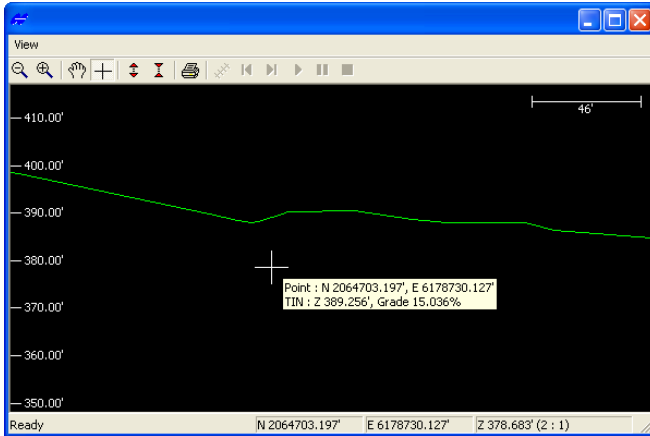

Figure 5-19. Profile View
The Profile View displays (Figure 5-19 on page 5-19) the following information:
3. On the **View** dialog box (Figure 5-19), use the toolbar to manipulate the view. See “3D-view and Profile View Toolbars” on page 1-16 for information on the toolbar buttons.